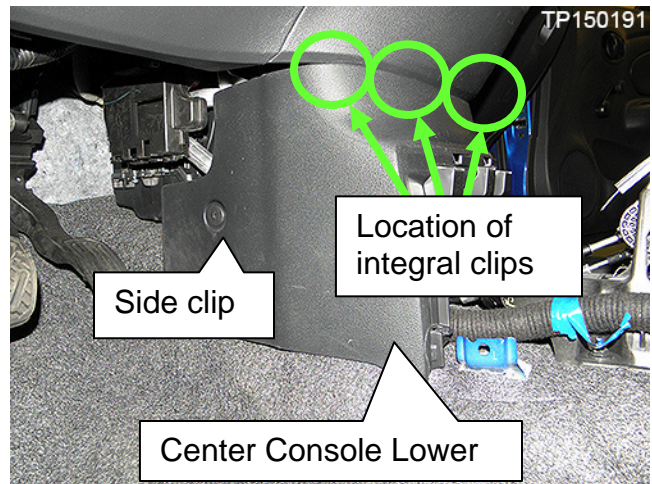

Figure 6
- Remove the Center Console Lower (Figure 6).